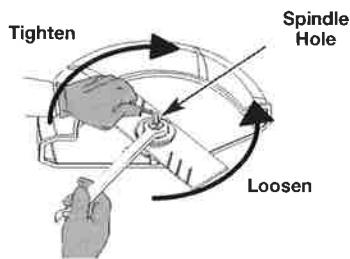

Fig. 16
- Place the 5/16" Allen wrench in the spindle hole (Fig. 16).
- While holding the Allen wrench in place, loosen the nut with a 15/16" wrench by turning it counterclockwise (Fig. 16).
- While holding the Allen wrench in the spindle hole, tighten the nut by turning the wrench clockwise until tight (Fig. 16).